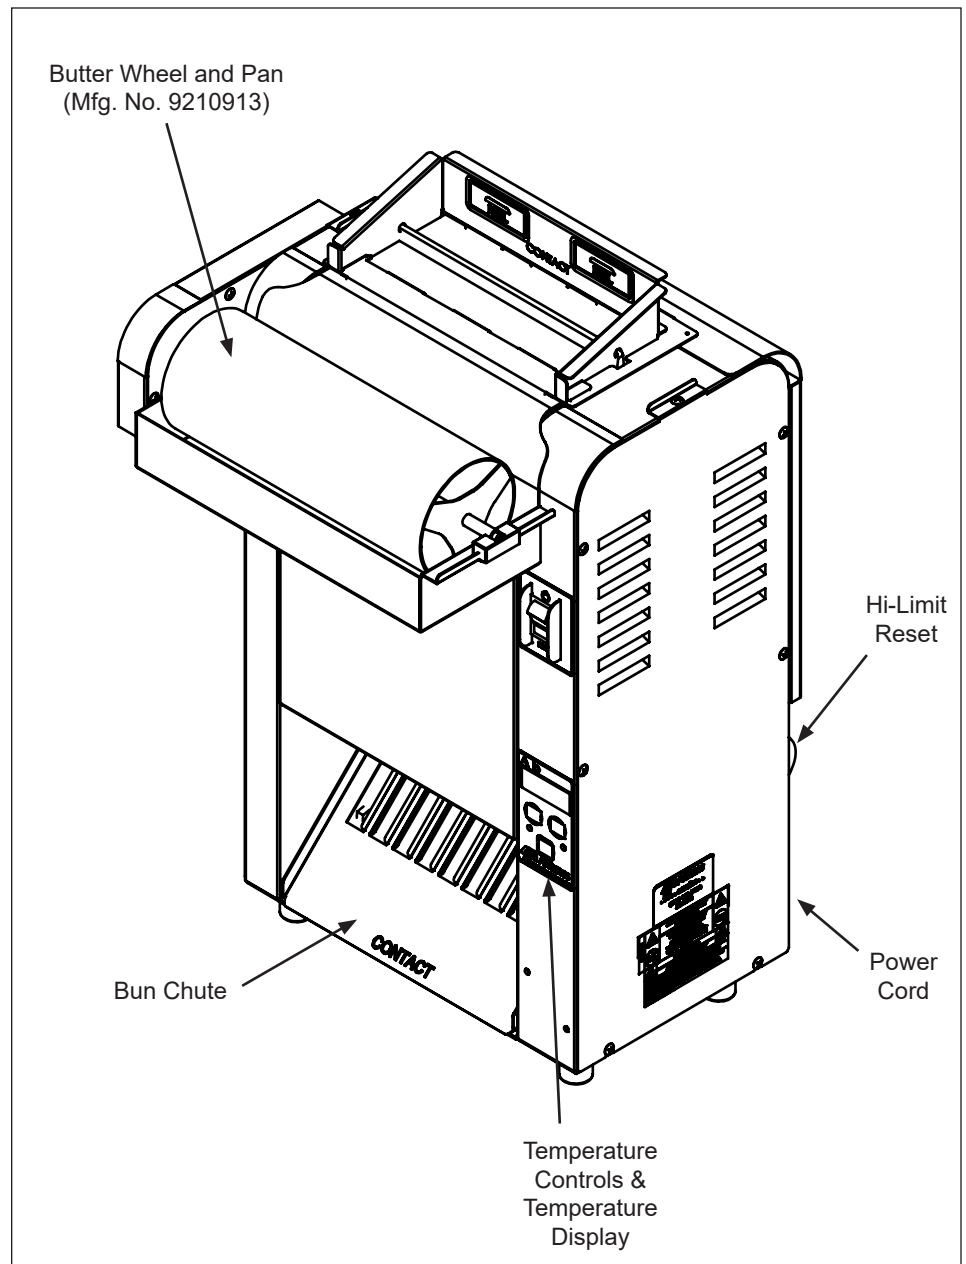

Figure 4. VCTM-2 Toaster
1. Set the Bun Thickness Adjustment Controls (Figure 4).
**NOTE:** The display (Figure 4) flashes "LO" during warm-up. "USE" appears when the toaster is ready for use.
5. Toasted buns drop onto the Bun Chute (Figure 4).
A Hi-Limit Control turns off power to the unit if it overheats. To reset the control, allow the unit to cool, then locate the Reset Button at the rear of the unit. Remove the black protective cap, press the Reset Button, and reinstall the protective cap (Figure 4).